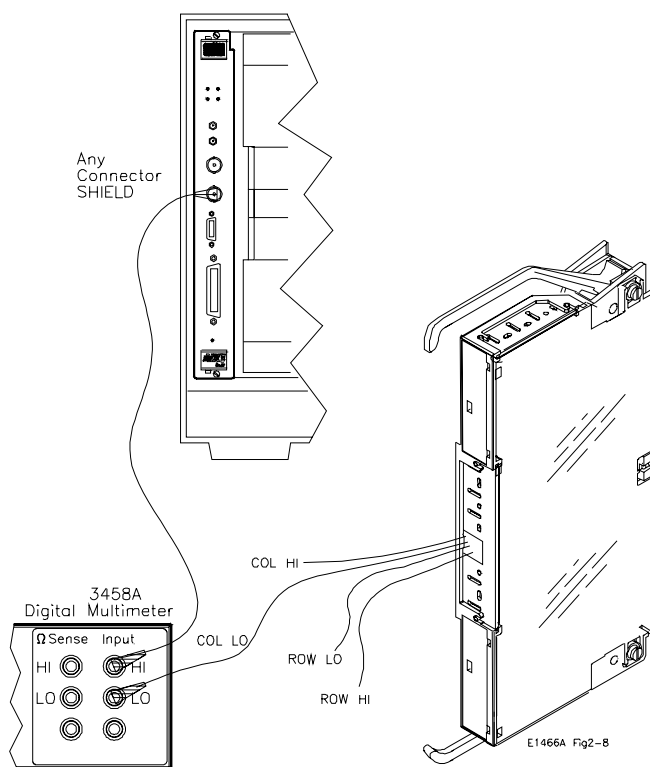

Figure 2-8. LO to Chassis Isolation Test Connections
- Make hardware connections as shown in Figure 2-8